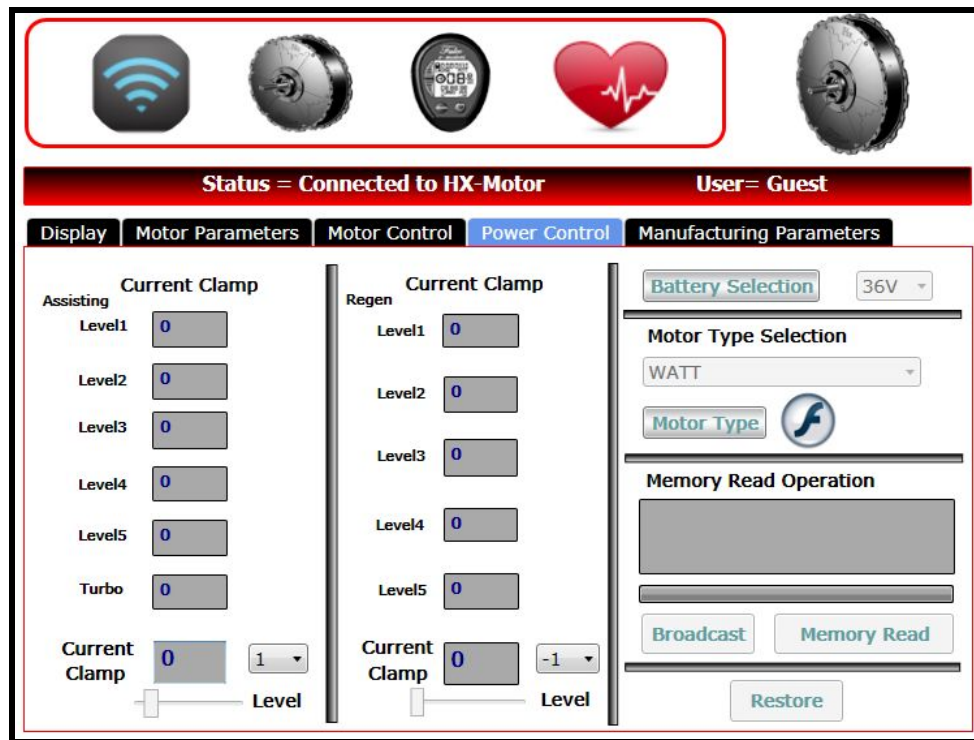

Figure 6: eBike Lab (Windows version) *Power Control* tab showing *assist levels* (left-hand side) and *regen levels*
**Figure 6: Falco torque sensor is designed to exploit the bicycle gears and bicycle science. The riding experience is enhanced with the correct use of bicycle gears.**